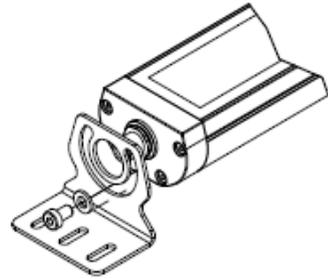

FIG.3
- Fix the two side plates to the lamp using the four M6 screws (FIG.3)